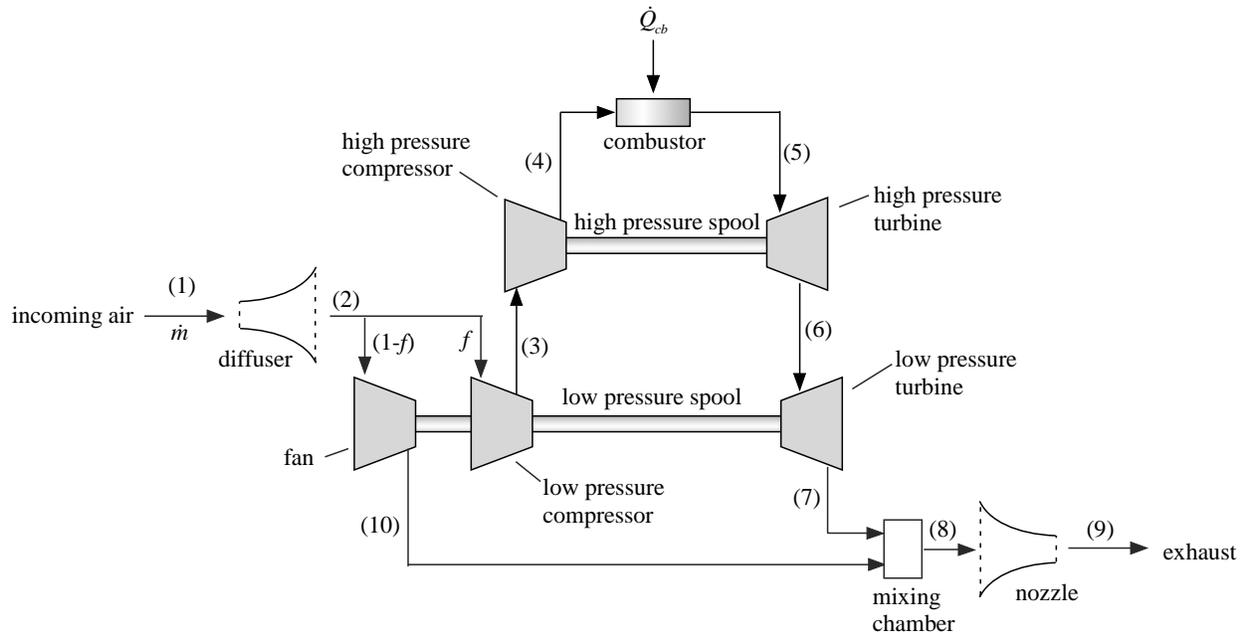

Figure 8.B-4: Turbo-fan engine.
8.B-4 A schematic of a turbo-fan engine is shown in Figure 8.B-4.